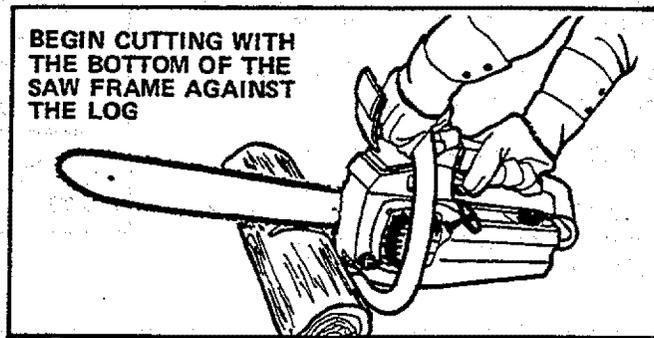

Figure 24
- b. Begin cutting with the saw frame against the log. Figure 24.